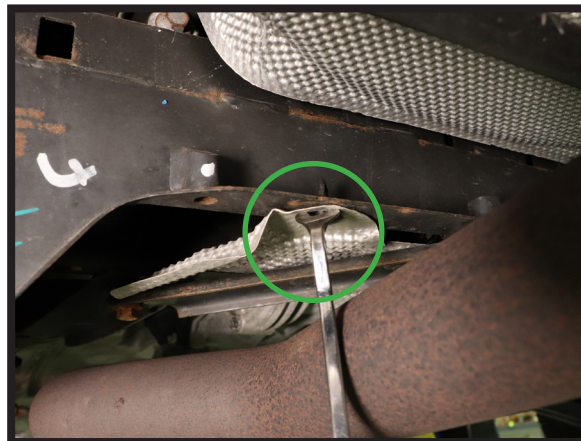

FIGURE 1
3. REMOVE FRAME PIN FOR HEATSHIELD. (FIGURE 1)